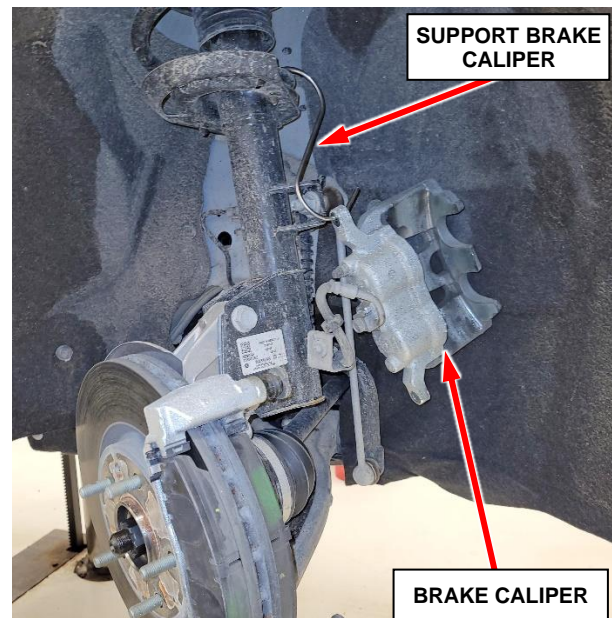

Figure 2 – Support Brake Caliper
4. Carefully remove and support the brake caliper, taking care not to over-extend the brake hose (Figure 2).